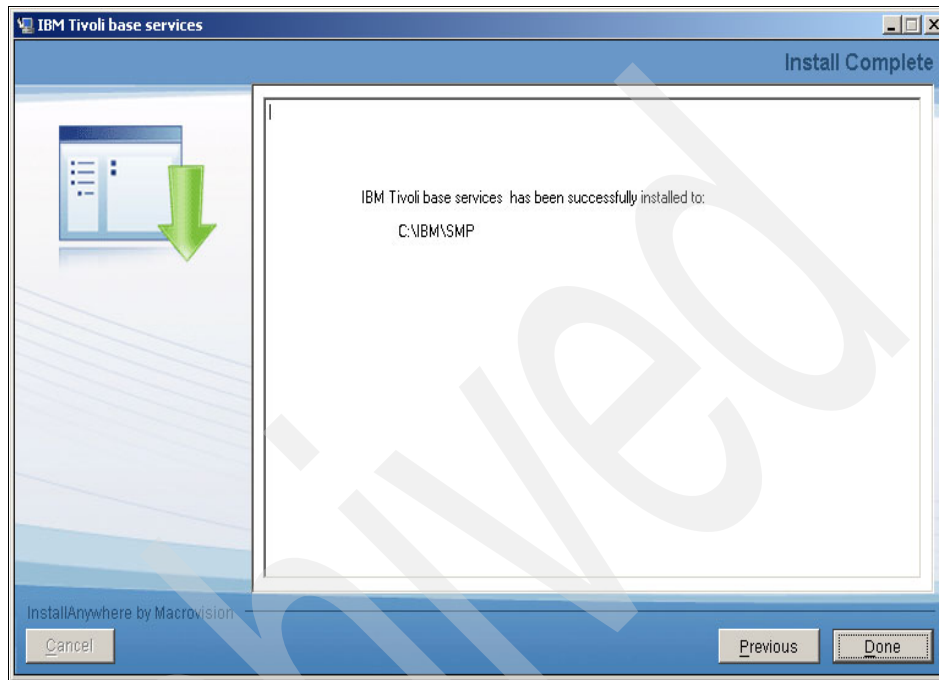

Figure 5-24 Install Complete
19. From the Install Complete panel (see Figure 5-24), click **Done**. When the Maximo Asset Management installation program has completed installation and configuration tasks, it exits. Logs can be found at <MAM_Home>/logs.